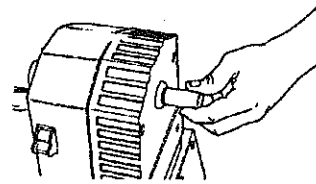

Fig.H-21
1. Turn off and unplug the Power Station, then remove the safety key (35) from the switch.
2. Remove the outer shaft cover (40) from the outer drive shaft. See Fig.H-21.